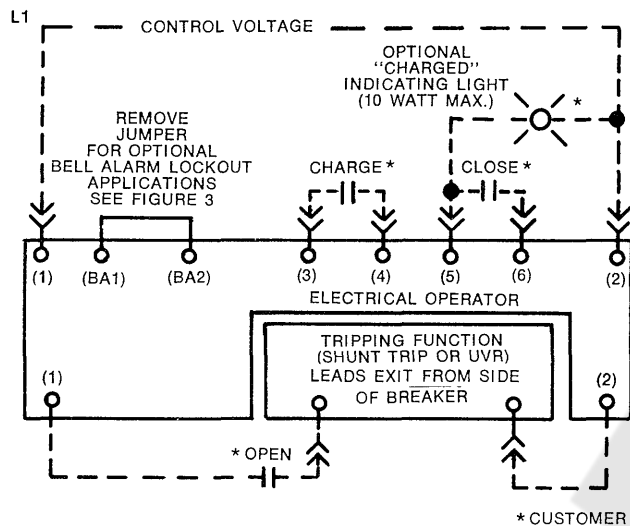

Fig. 2 — Wiring Diagram
- F Drive Unit Terminal Board** (See Figure 2)
To close the breaker's main contacts, a CHARGE cycle must first be initiated. This may be done electrically as shown in figure 2, or manually by depressing the handle lock release button (E) and sequencing the handle (D). The breaker is now in
a "ready" state. Depressing the ON button (B) or shorting points (5) and (6), figure 2, closes the breaker's main contacts. The OFF pushbutton (C) or a remote tripping function may be used to open the breaker. The breaker's state is indicated at (A) as OFF (green), ON (red) or CHARGED (yellow).
- a) Mechanism may be electrically charged by connecting Terminal 3 to Terminal 4 (Figure 2).
- a) Breaker contacts may be remotely closed by connecting Terminal 5 to Terminal 6 (Figure 2).
- a) **For Bell Alarm Lockout** — Interconnect bell alarm switch to motor operator terminal board as shown in Figure 2.